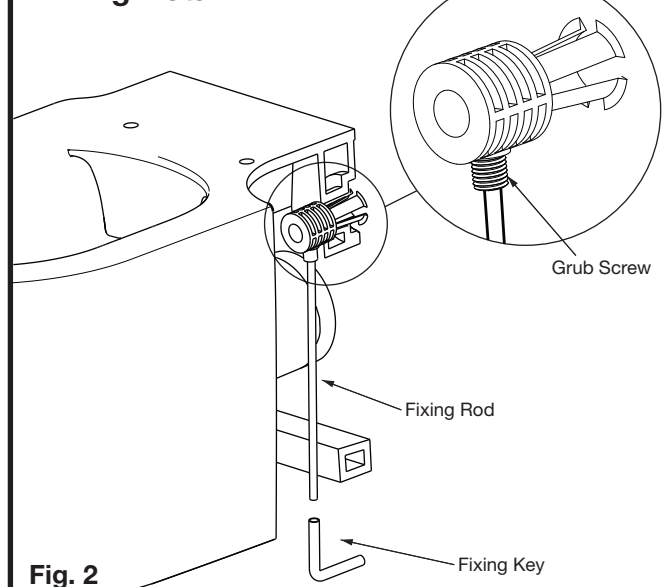

Fig. 2
- 9- Fit the plastic Fixing Bushes into the holes provided in the back of the pan with the Fixing Rod facing down towards the floor, as detailed in **Fig. 2**.